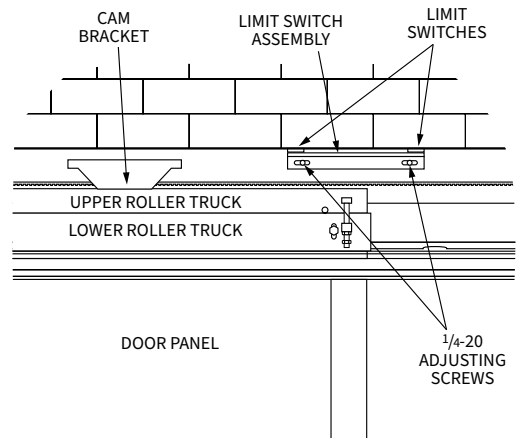

Figure 23: Adjusting Limits
2. With the power "OFF", manually operate the door to the fully open and fully closed positions and verify the limit switches activate as the cam passes by. Confirm that the switches are being tripped by the cam (Figures 23 & 24).
6. The limits have been set short at the factory. Adjust the limits for the final position of the door. Adjusting for the closed position: Moving the left limit switch assembly to the left will allow more door travel to the left for a R.H. door panel. (The opposite would apply for a L.H. door.) The door will stop prior to reaching the fully closed position or stop. Slide switch assembly as needed for final door panel positioning. Tighten two 1/4 – 20 screws on switch assembly (Figures 23 & 24).